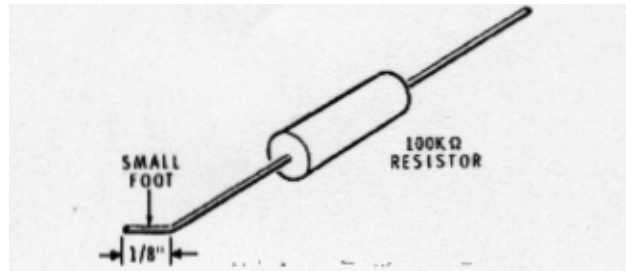

Figure 1
- ( ) Refer to Figure 1 and bend a small "foot" on the end of one lead of the 100 k $\Omega$  (brown-black-yellow) resistor.